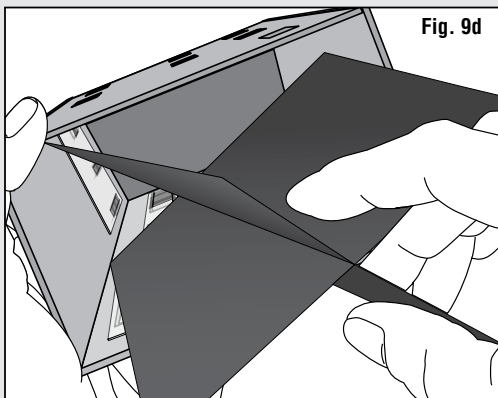

Fig. 9d
- Insert into Building. (Fig. 9d)